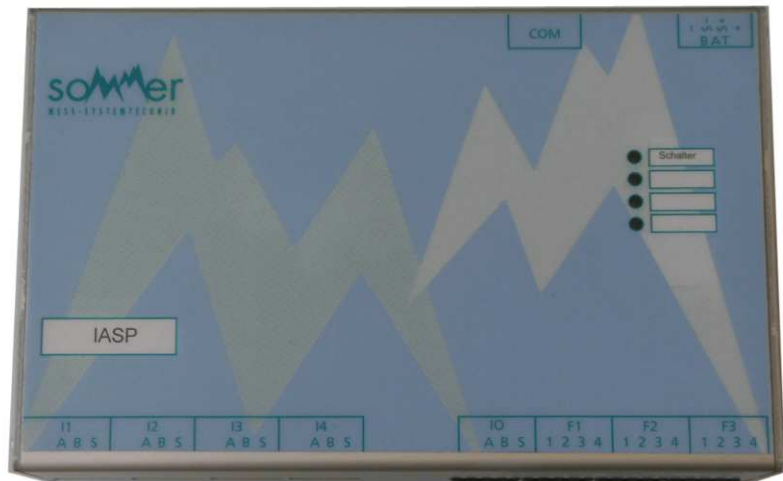

Fig. 3: IASP control unit
**Tab. 1: Connector assignment for Fig. 3;